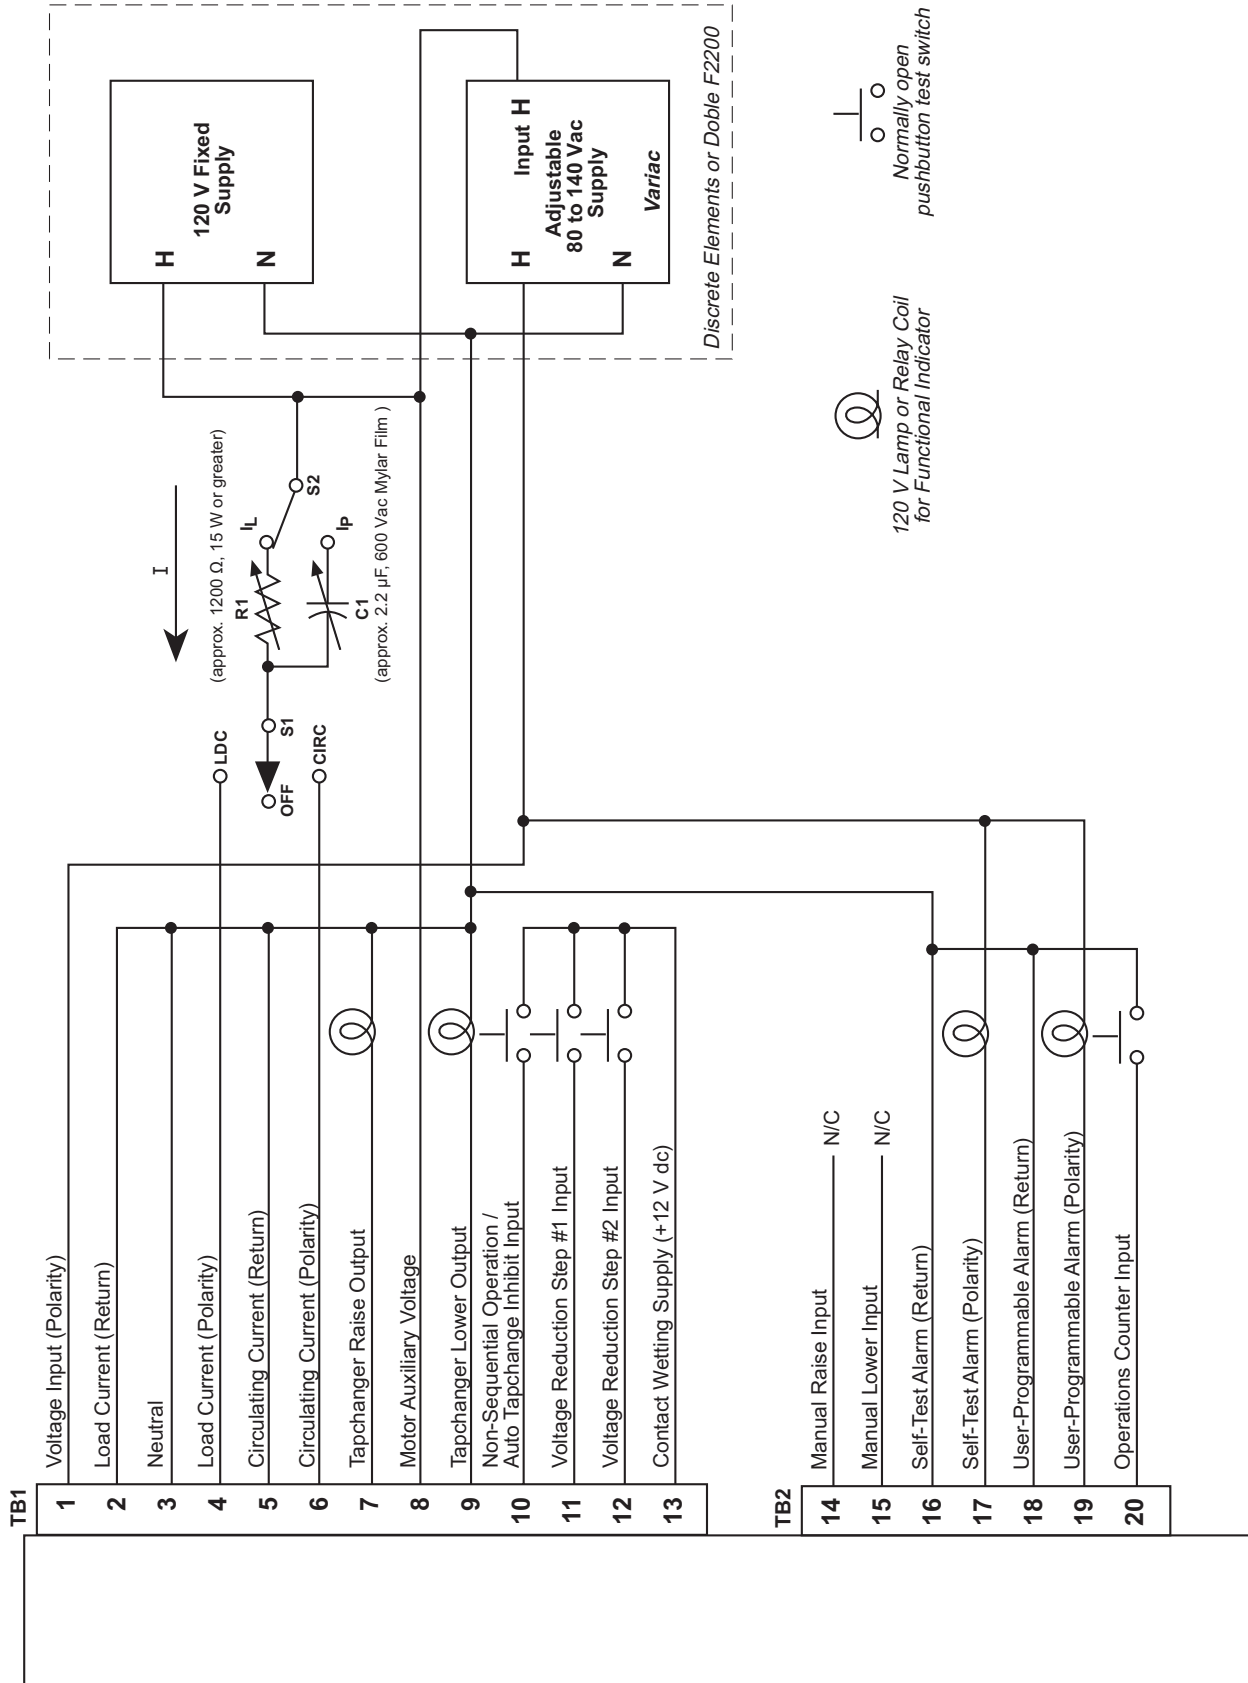

Figure 8 M-2051/M-2052 Test Procedure External Connections
1. Make electrical connections as shown in Figure 8, M-2051/M-2052 Test Procedure External Connections.